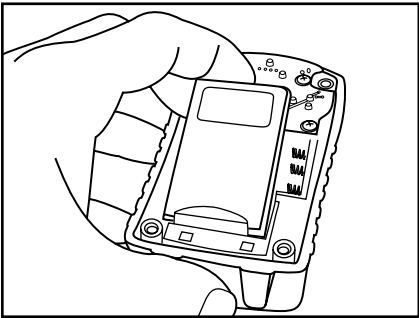

Fig. 33
- 3. Remove Li-ion battery pack by sliding it towards the bottom of the detector and pulling out, or remove the AAA batteries from the frame (Fig. 33 and 34).